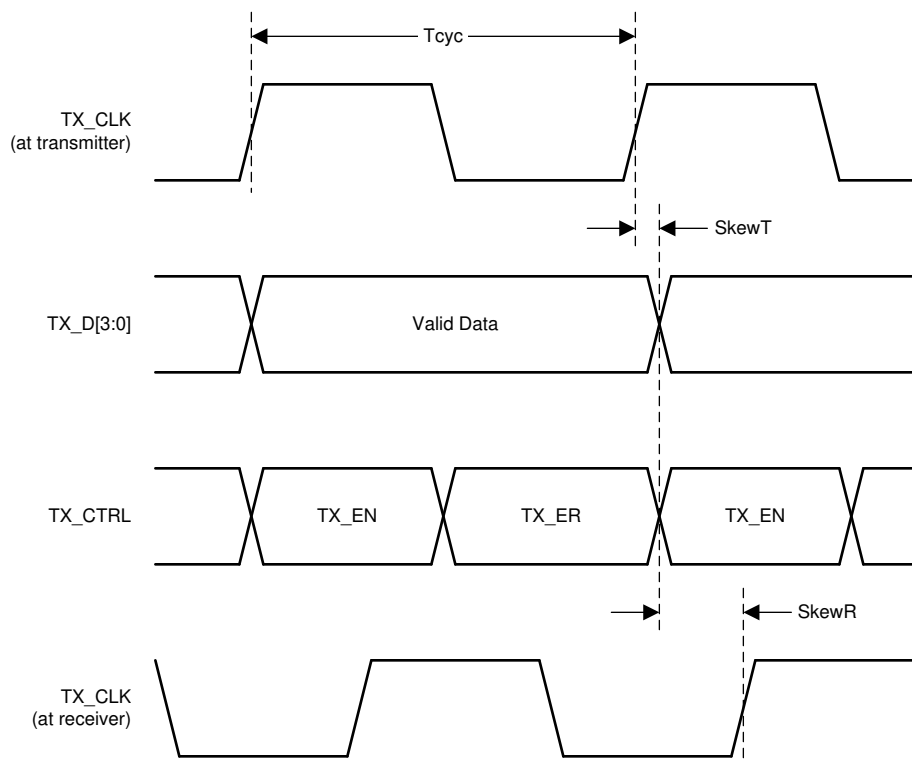

图 7-11. RGMII Transmit Timing
(1) Ensured by production test, characterization or design.
(2) When operating without RGMII internal delay, the PCB design requires clocks to be routed such that an additional trace delay of greater than 1.5 ns is added to the associated clock signal.
(3) Device may operate with or without internal delay.
(4) The duty cycle may be stretched or shrunk during speed changes or while transitioning to a received packet's clock domain as long as minimum duty cycle is not violated and stretching occurs for no more than three Tcyc of the lowest speed transitioned between.
(5) See 图 7-11 and 图 7-12.